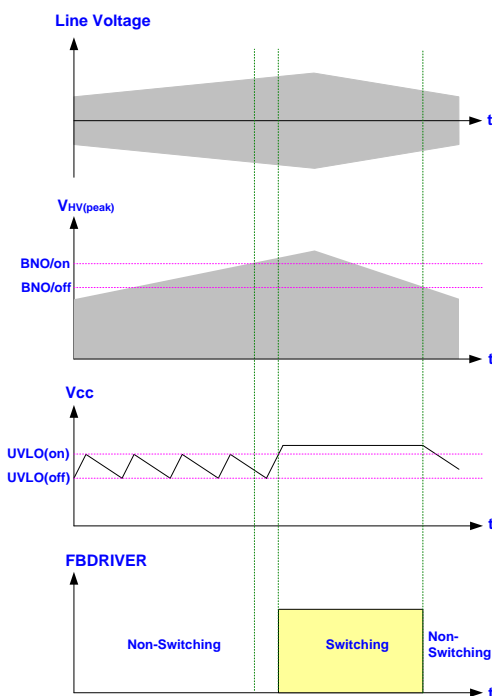

Fig 17.
The LD7791/A/B/C features brown-in / brown-out protection on HV pin. As the built-in comparator detects line voltage, it will turn off the controller to prevent any damages. In case of $V_{HV} < \text{Brown-out Level}$, the output driver will be disabled even when VCC already reaches UVLO (ON). It therefore forces VCC hiccup between ULVO (on) and UVLO (OFF). Unless the line voltage is large enough and over Brown-in Level, the output driver will not start switching even if the next ULVO (on) is tripped. A hysteresis is designed to prevent false-triggering and damage to the external components during turn-on and turn-off phase. See Fig 17 for the operation.